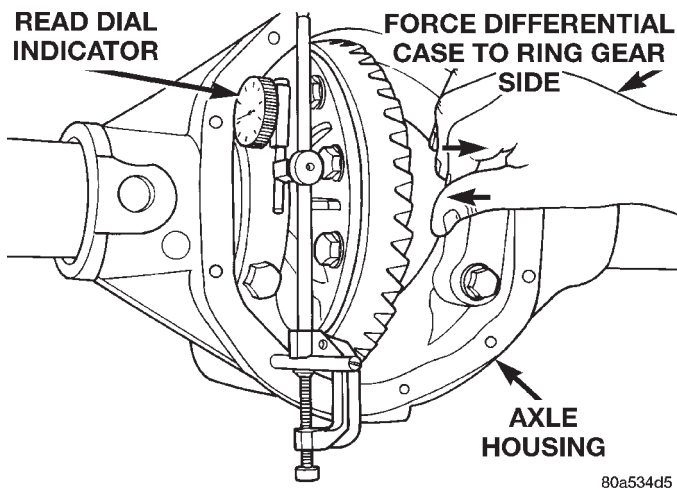

Fig. 67 Hold Differential Case and Read Dial Indicator
(12) Push and hold differential case to ring gear side of the axle housing (Fig. 67).
(13) Record dial indicator reading (Fig. 67).
(14) Add 0.008 in. (0.2 mm) to the zero end play total. This new total represents the thickness of